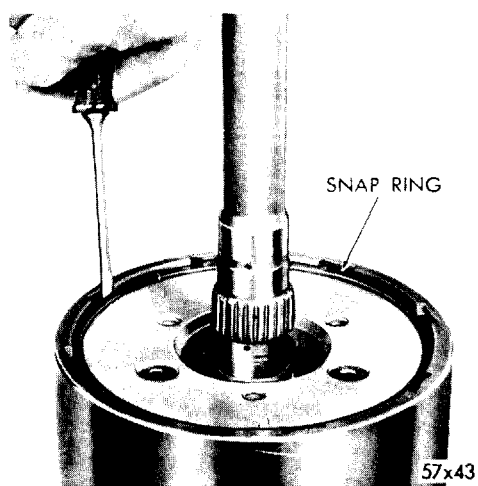

Fig. 23—Removing Kickdown Planet Pinion Carrier Housing Snap Ring
(1) Using a feeler gauge, check clearance between the planet pinion carrier housing snap ring and kickdown planet pinion carrier assembly. This clearance should be from .010 to .021 inch. Snap rings are available in the following thicknesses: .062-.064, .072-.074, and .082-.084 inch. If this selection of snap rings fails to provide the necessary clearance, use one of the kickdown sun gear snap rings (part number 1327729) which will permit a minimum of .058-.060 inch.
(2) Using a screw driver, remove the planet pinion carrier housing snap ring (Figure 23). Identify snap ring to aid in reassembly.